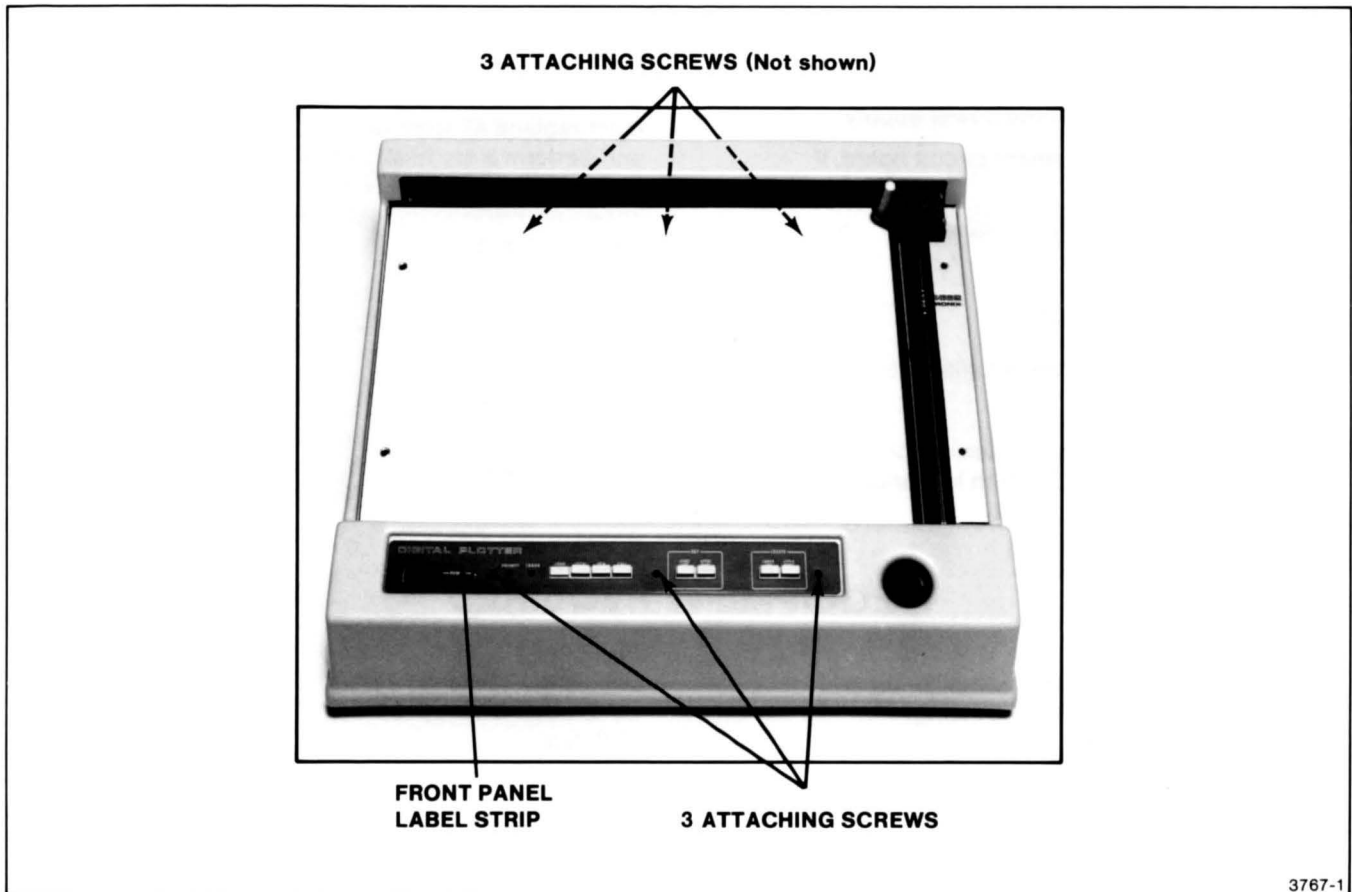

Figure J-1. Plotter Case Attaching Screws.
2. Remove the six hex-socket cap screws (5/64" socket) holding the Plotter case to the frame. There are three screws on the front panel and three screws on the rear panel (see Figure J-1).